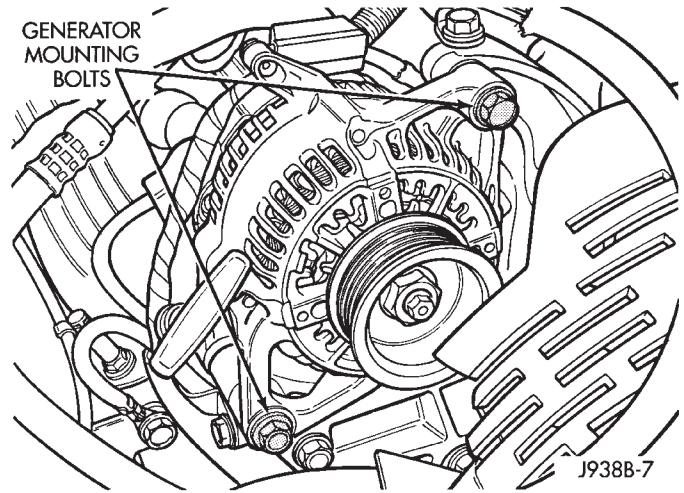

Fig. 5 Generator Mounting Bolts
- (3) Rotate the tensioner assembly clockwise (as viewed from front) until tension has been relieved from belt.
- (4) Remove belt from vehicle.
- (5) Remove lower generator mounting bolt and nut (Fig. 5).
- (6) Remove upper generator mounting bolt and remove generator from bracket.